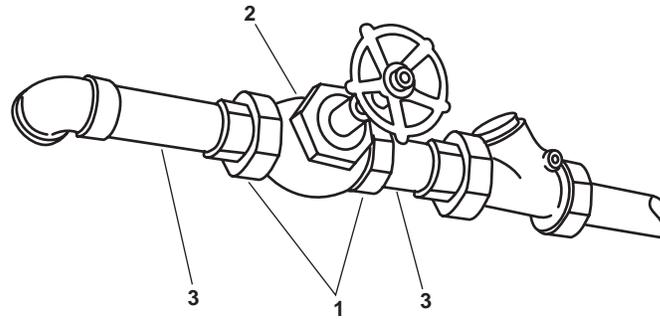

Figure 9. Threaded Valve Replacement (Typical)
3. Slowly loosen the unions (figure 9, item 1) and allow any trapped pressure to escape.
4. Disconnect the unions (figure 9, item 1) from the valve (figure 9, item 2) and remove the valve from its piping (figure 9, item 3).
1. Position the valve (figure 9, item 2) in its piping (figure 9, item 3).
2. Secure the valve (figure 9, item 2) by tightening the unions (figure 9, item 1).